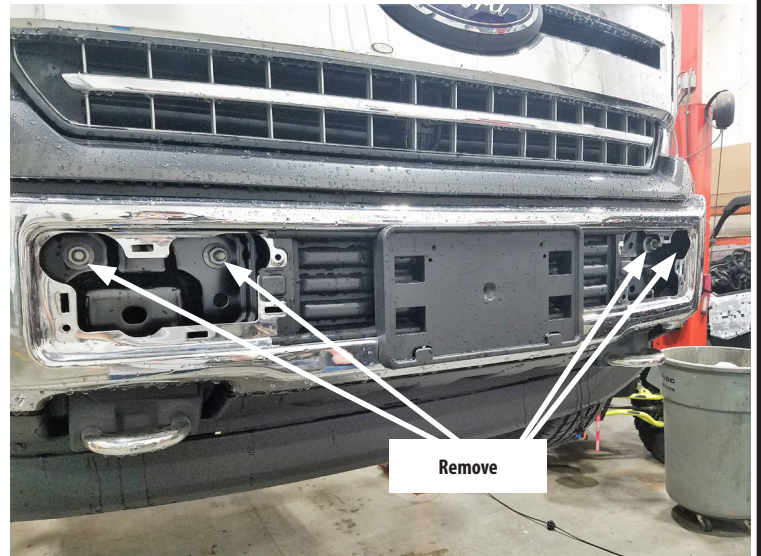

Figure 6
7. From inside the bumper, remove the four nuts (two on each side) as shown in Figure 6. After removing nuts, you can freely remove the tie bolt plate from behind the bumper.